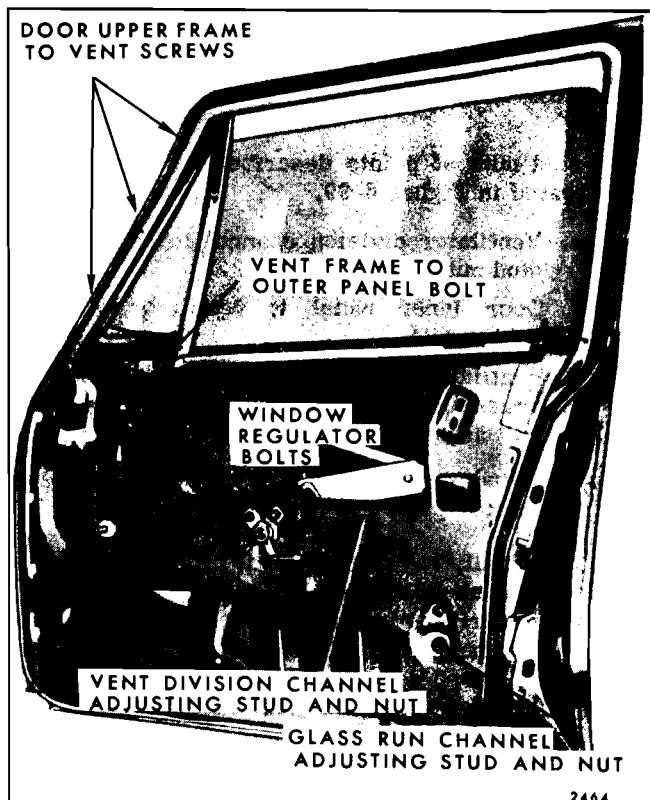

Fig. 6-100—Door Ventilator and Regulator Attachment - "A" Styles
4. Remove ventilator division channel lower adjusting stud and nut and window regulator attaching bolts (Figure 6-100).